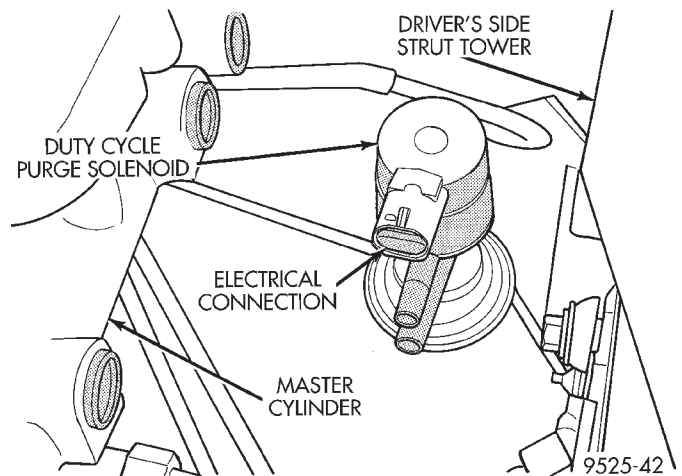

Fig. 43 Duty Cycle EVAP Purge Solenoid
(9) Inspect the electrical and hose connections at the duty cycle purge solenoid (Fig. 43).
(10) Check electrical connection to the radiator fan.